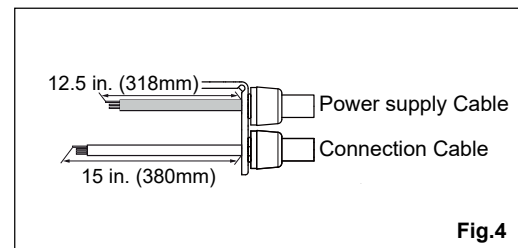

Fig.4
- (4) Adjust the length of Connecting Cable. Then connect it to Terminal Board. (Fig.4)